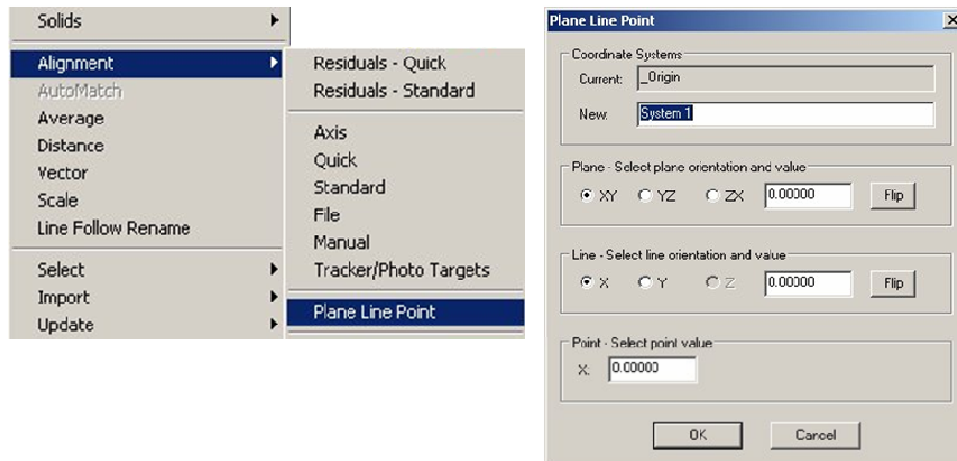

Figure 5: Plane-line-point alignment setup.
- 2) Right click in the 3D View and select Plane-Line-Point from the Alignment menu. If the selection is grayed out, you have not selected one plane, one line, and one point. The Plane Line Point dialog box shown in Figure 5.